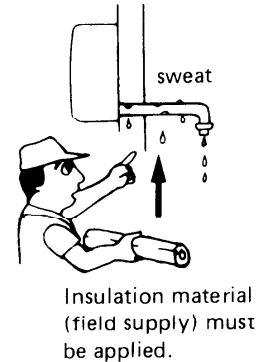

Fig. 18
- If the drain pipe will run in the room, insulate the pipe with an insulation material\* so that chilled sweat should not damage furniture or floors. Fig. 18